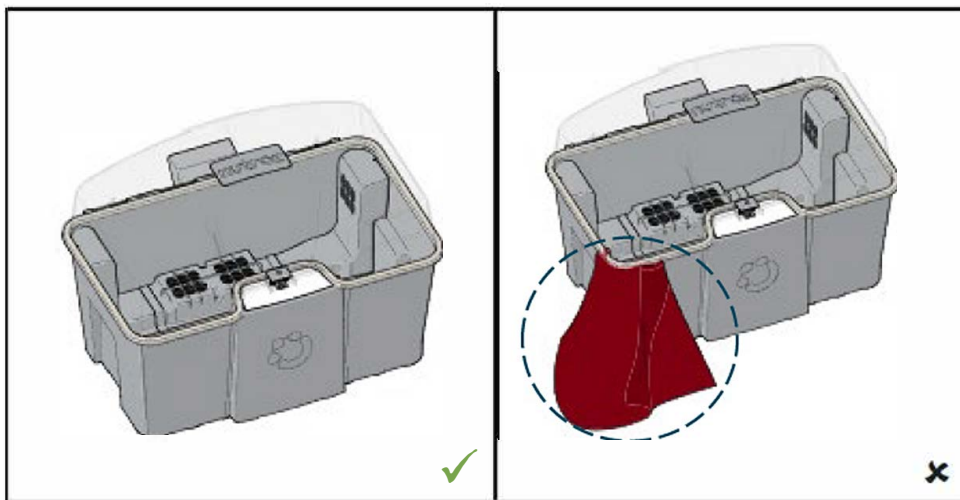

Figure 3 Example of an acceptable seal (left) and an unacceptable seal (right) caused by material(s) protruding out of the lid.
- a. ENSURE MATERIALS ARE NOT PROTRUDING FROM THE NUTROZ DEVICE ONCE THE NUTROZ DEVICE IS CLOSED. When closing the NUTROZ device, visually inspect for materials overhanging or obstructing the lid or seal area such as the example shown in Figure 3. If found, adjust the items, or remove excess items to ensure there are no protrusions or obstructions prior to activation.